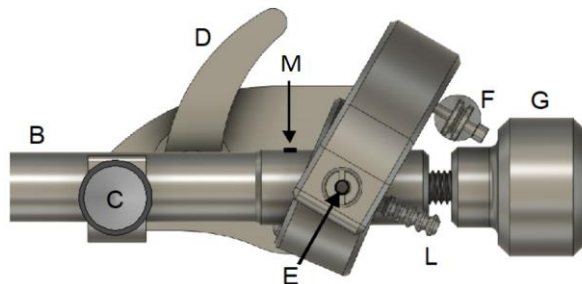

Figure 2: Top view and identification of the key tonearm parts.
7. Check the horizontal position (azimuth) of the cartridge using the leveling tool. If it needs adjustment first lift up the tonearm, then unlock the bolt on the side of the pipe housing (M on Figure 2), gently rotate the tube in the proper direction and lock the bolt with an adequate force. Check the leveling and repeat if needed.